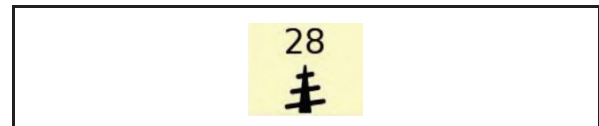

Fig. 166
Press and keep hold of the key button (1) of the multi-function joystick to the right (2) or left (3) until the desired speed appears in the "Mixing auger(s)" symbol (Fig. 166) in the terminal (0 = mixing auger(s) switched off).